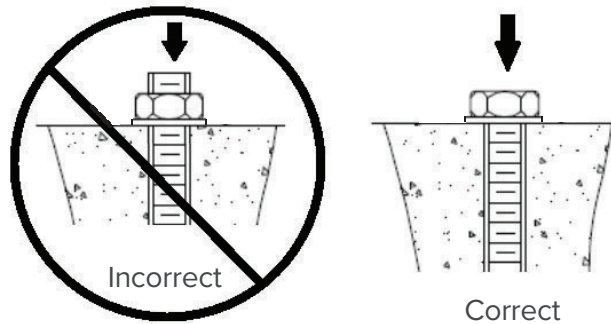

Figure 2
5. Place a flat washer onto the stud, then thread a nut on until the end of the stud is flush with the nut (as shown in Figure 2).